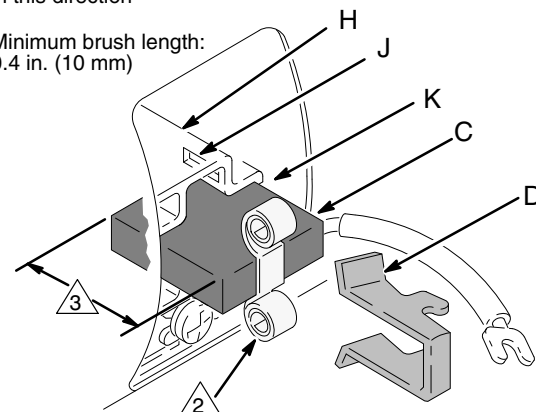

Fig. 11
5. Install the new brush (C) so its lead is in the long slot (K) of the holder (H). Slide the terminal (E) under the terminal screw (F) washer. Make sure the motor lead terminal (G) is still connected at the screw. Tighten the screw. See Fig 11.
6. Place the spring (A) on the brush (C) as shown in Fig 11.
7. Push in and hook the spring clip (D). See Fig 11.